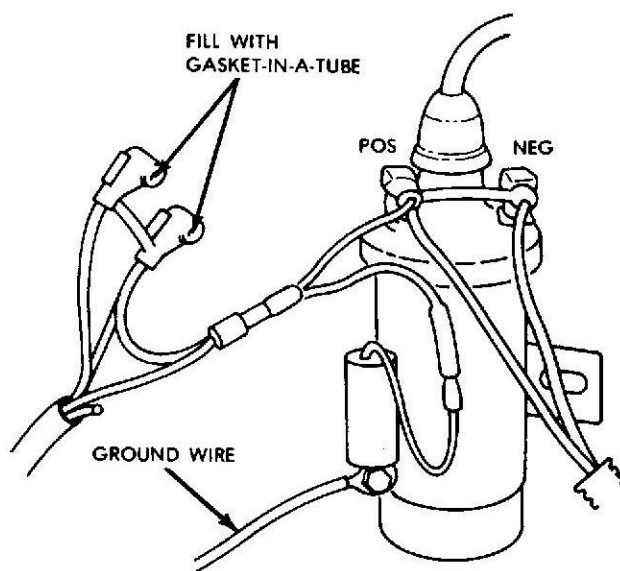

Fig. 6 Sensor Harness With Ignition Coil Push-On Terminals
(1) Disconnect wires from coil terminals and capacitor.
(2) Connect male bullet terminal of sensor harness into female bullet connector of capacitor wire (Fig. 6).